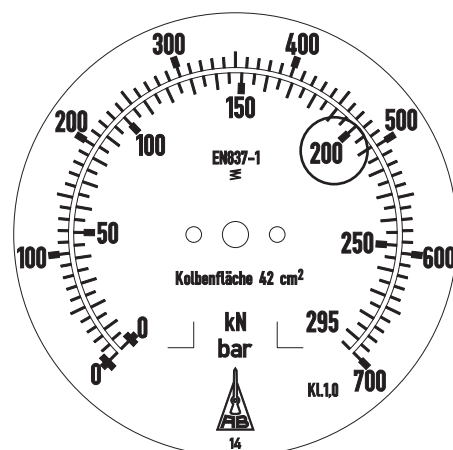

Fig. A5.04
4. Rotate the adjusting nut (1.2) downwards in a clockwise direction by hand until it is resting on the plate. (Fig. A5.04)